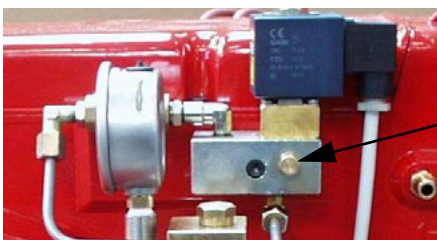
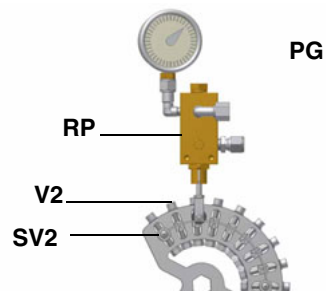

Fig. 21
Fig. 22
- 6 the nozzle supply pressure is already factory-set and must not be changed. Only if necessary, adjust the supply pressure as follows (see related paragraph); insert a pressure gauge into the port shown on Fig. 21 and act on on the pump adjusting screw **VR** (see Fig. 22) as to get the nozzle pressure at 20bar (see table on page 22).